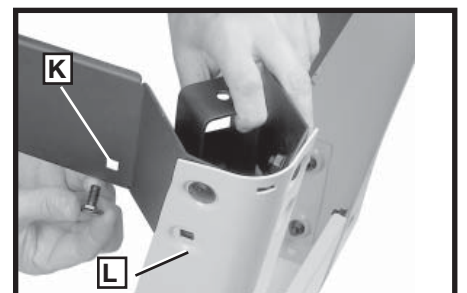

Fig. 12
7. Once aligned, attach the corner bracket to the leg supports using the $\frac{5}{16}$ -18 x $\frac{5}{8}$ " Carriage Head Screws and $\frac{5}{16}$ -18 Serrated Hex Nuts. Insert screw through support and then the corner bracket at (K) Fig. 12. Thread hex nut onto screw and tighten.
8. Then attach leg to corner bracket using the longer $\frac{5}{16}$ -18 x $\frac{3}{4}$ " Carriage Head Screws and $\frac{5}{16}$ -18 Serrated Hex Nuts in two holes, one of which is at (L) Fig. 12.